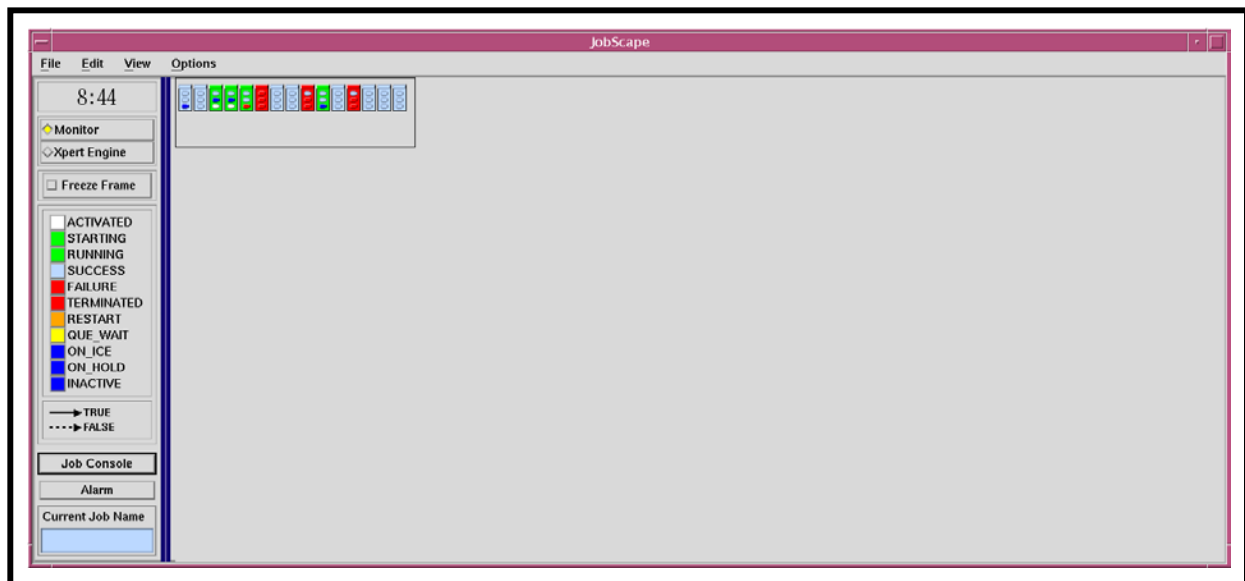

Figure 69. JobScope GUI “No Text” View
- No text is displayed in the **No Text View** (Figure 69), which provides a global or big-picture view of the jobs currently in processing without specifically identifying them by name.